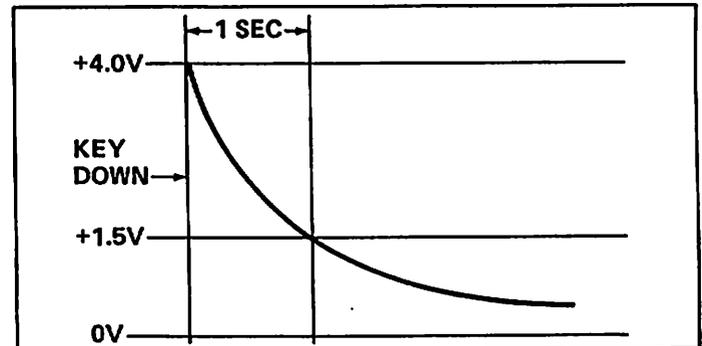

FIGURE 4-10 LOUDNESS DECAY AT JUNCTION OF R165 AND R166
c) Observe waveform at junction of R165 and R166 (Figure 4-3) and adjust amplitude decay trimpot R190 for the decay contour shown in Figure 4-10.